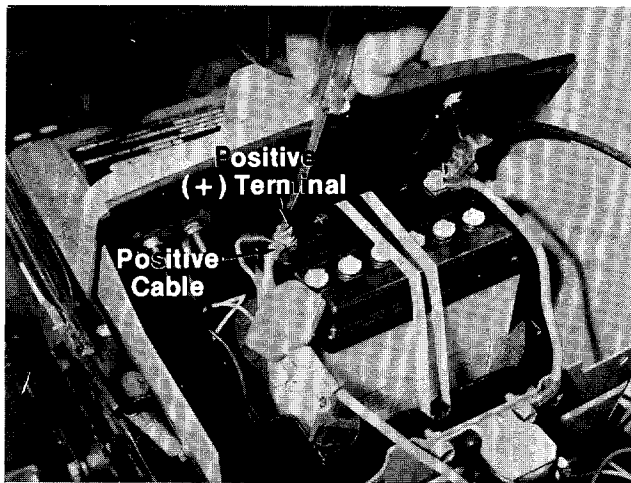

FIGURE 11.
13. Slide the square nut (provided with battery hardware) into the positive (+) terminal. Slide the rubber boot back which is on the positive cable. Place the positive (heavy red wire) cable and the small red wire (with a fuse holder in it) on the positive terminal. Secure with screw and lock washer provided. See figure 11.